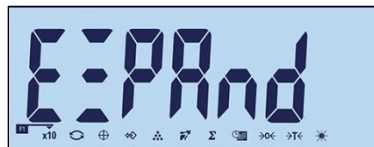
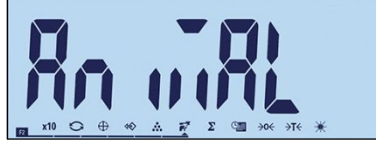

Figure 3-40: Configuring Function Key 1
Figure 3-41: Configuring Function Key 2
- Function keys can also be configured from the home screen. Press and hold the function key to be configured to access the configuration screen (Figure 3-40, Figure 3-41).
Access the F2.1.1 menu. Use the up and down keys to select the required function from the options shown in Table 3-3. Focus will change to indicate the selected function, as shown in Figure 3-40, where Expand x10 is selected. Press to confirm the selection.
Access the F2.1.1 menu and use the up and down keys to select the required function. Focus will change to indicate the selected function, as shown in Figure 3-41, where Animal Weighing is selected. Press to confirm the selection.